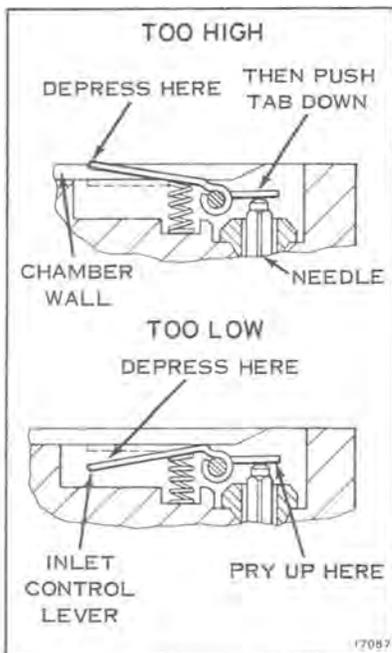

Figure 6-6
2. Adjust the inlet control lever so that the center of the lever that contacts the metering diaphragm is flush to the metering chamber wall (see Figure 6-6).